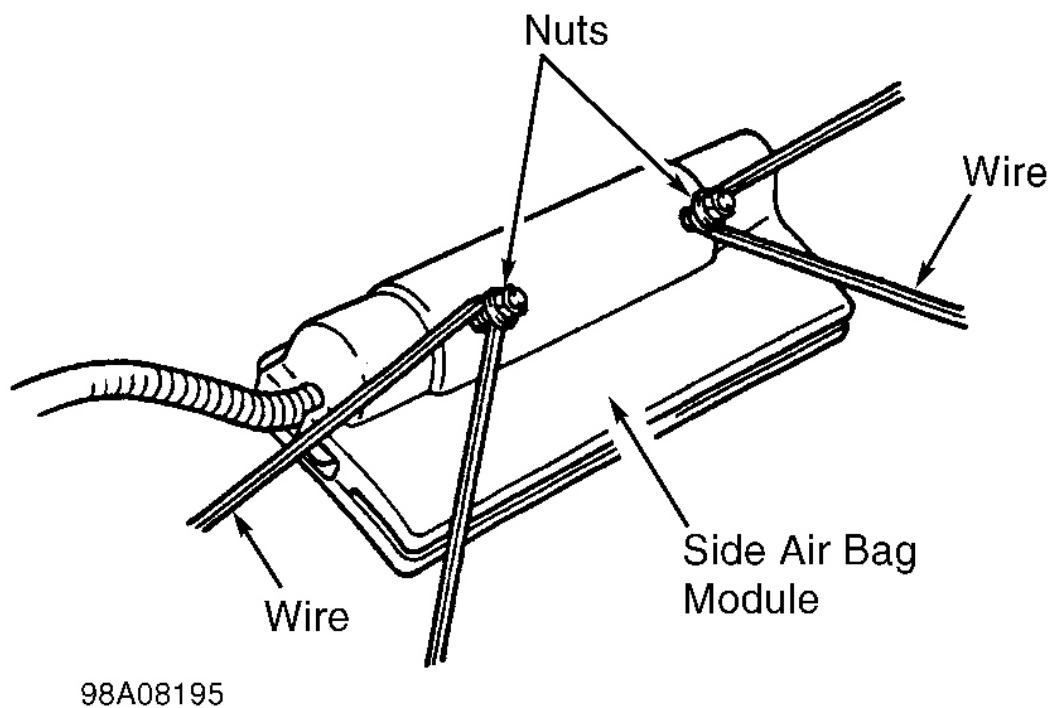

Fig. 7: Securing Wire To Side Air Bag Module
1. Before proceeding, see **AIR BAG SAFETY PRECAUTIONS** . Disable air bag system. See **DISABLING SYSTEM** under DISABLING & ACTIVATING AIR BAG SYSTEM. Test Deployment Tool (09082-00700). See **TESTING DEPLOYMENT TOOL** . Remove appropriate side air bag. See **SIDE AIR BAG MODULE** under REMOVAL & INSTALLATION. Install 2 nuts on stud located on rear side of air bag module. Wrap strong wire at least twice around each stud. See **Fig. 7** . Ensure no slack is present in wire.